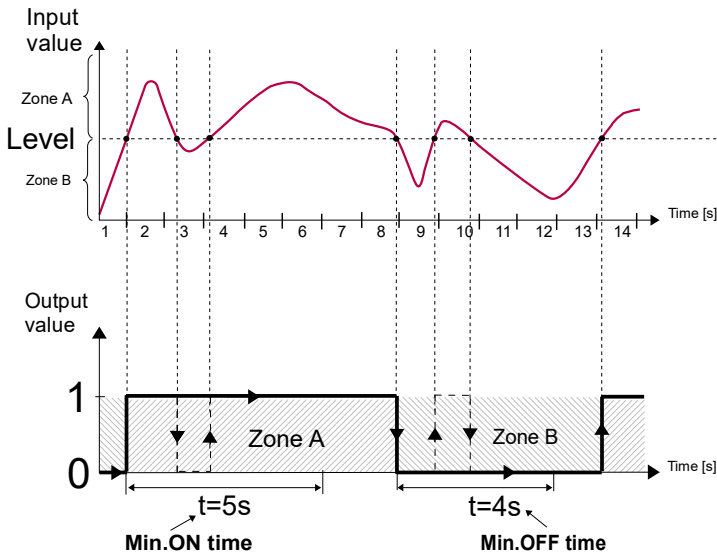

Fig. 7.91. Principle of relay output operation for sample timing settings:
- high state the low state will occur after this time) - see **Fig. 7.91**,
- **Minimum OFF time** - the minimum duration of a low state (if the output switches to low state the high state will occur after this time) - see **Fig. 7.91**,